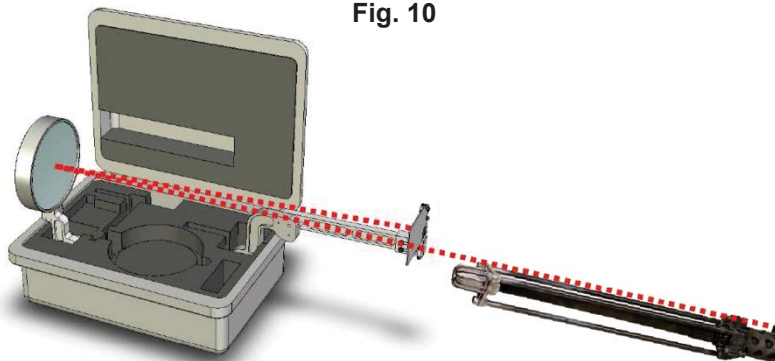

Fig. 10
5. The distance from the SAT to the MAJiK is not significant as long as the shooter can see the visible red laser on the target card as shown in Fig. 10.
3. Shooter should set the weapon's SAT in a position like shown in Fig. 10 & 11.